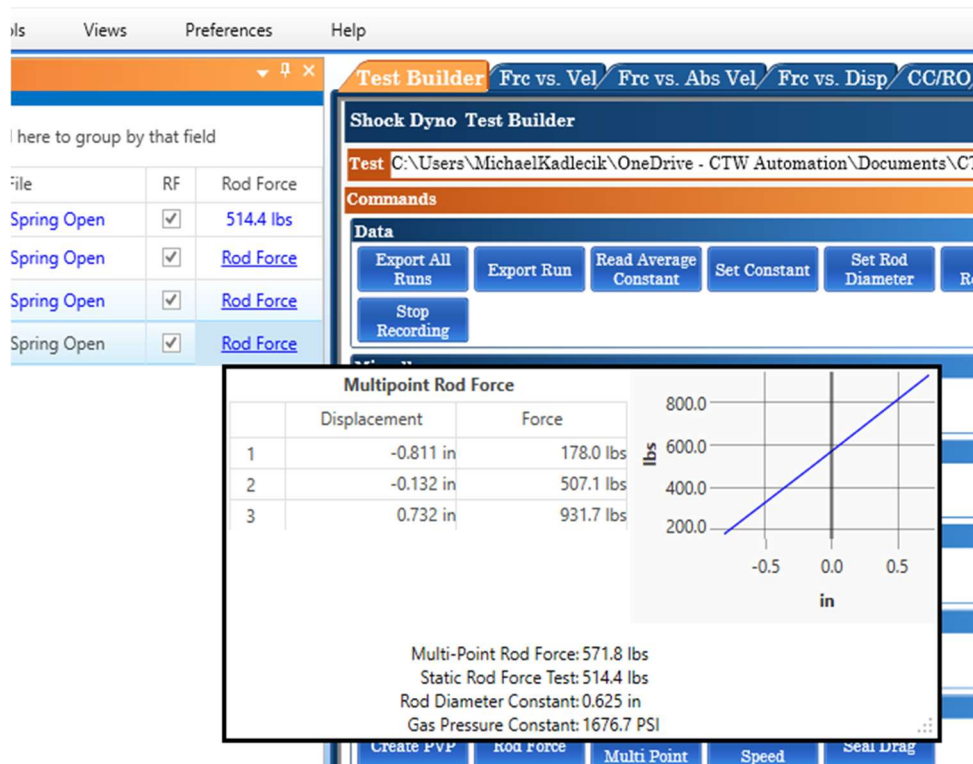

Figure 6 – the Multi-point Rod Force Data Table
Figure 6 - Multi-point table showing a very linear growth curve. No need for more than (3) points. The next figure, you can see the curve is not linear, it is increasing in rate. You might want to use 5 or 7 points, depending on the stroke.